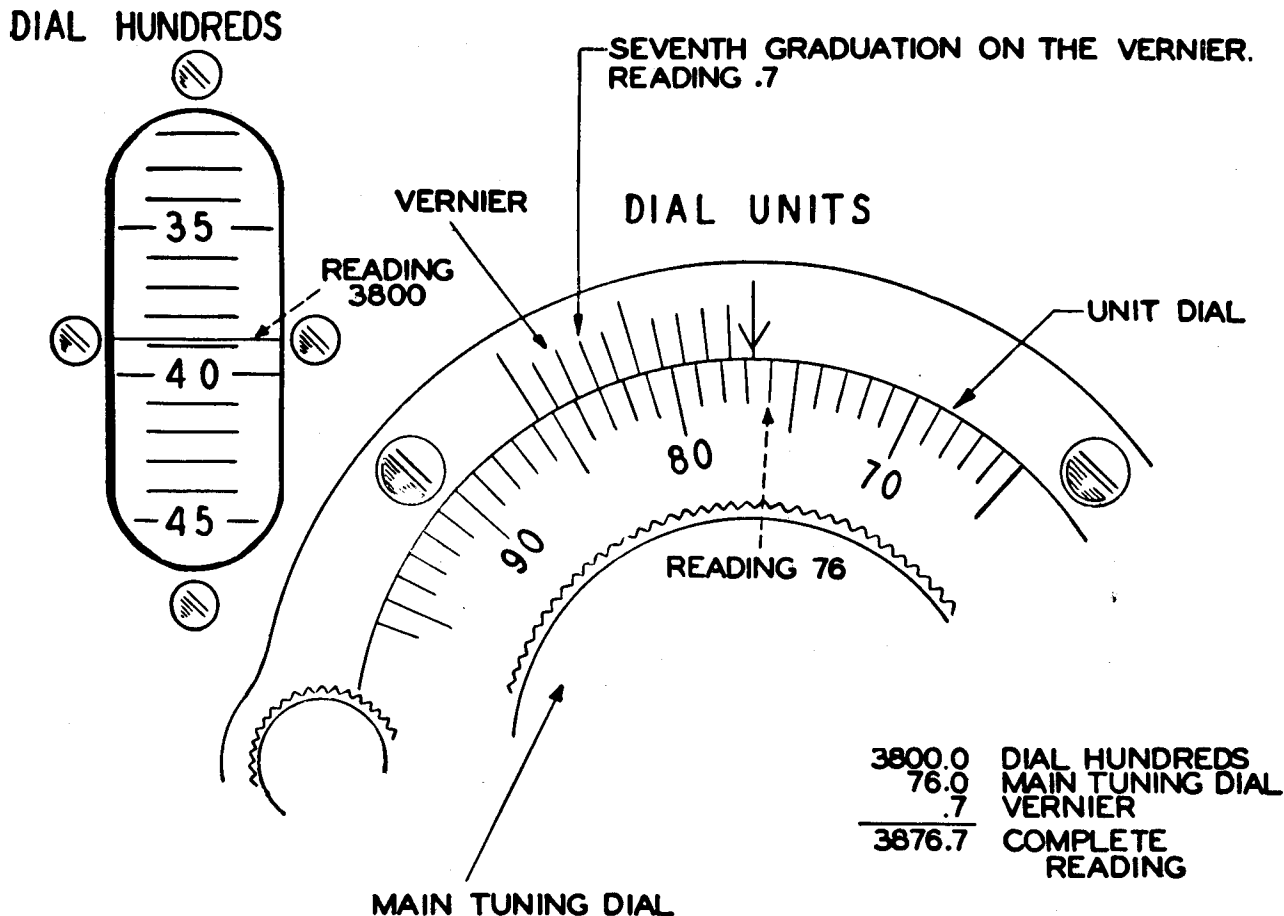

Figure 13. Frequency Meter BC-221-(G), main tuning dial.
a. GENERAL. Before attempting to turn the main tuning dial (DIAL UNITS), always make sure the dial lock is loosened. The drum-dial behind the small window (fig. 13) indicates, in hundreds, the reading of the dial setting. The large dial provides the units, and the vernier scale, above and on the outside edge of the large dial, provides the tenths place of the setting. The large dial is provided with the simple friction lock so that a predetermined setting can be kept fixed. This feature is of particular value when the instrument is subjected to vibration.
b. USE OF THE DIAL. (1) *Setting the dial.* To set this control, having loosened the locking screw:
(d) Figure 13 is an illustration of the dial setting 3876.7.